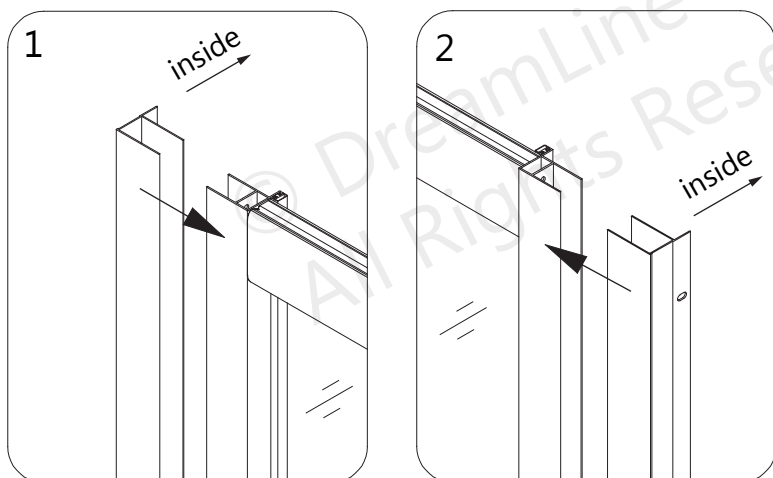
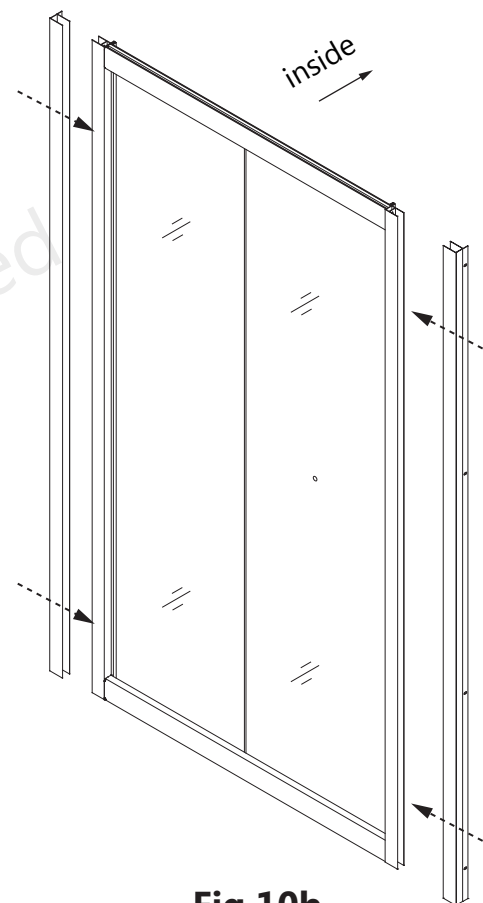

Fig 10a
Fig 10b
10. Slide the two **Wall Profiles (#01)** over both of the **Glass Profiles (#02)**. Be sure to position the **Wall Profiles (#01)** so that the flange with the predrilled holes faces inside the shower. (**Fig 10a** and **Fig 10b**)